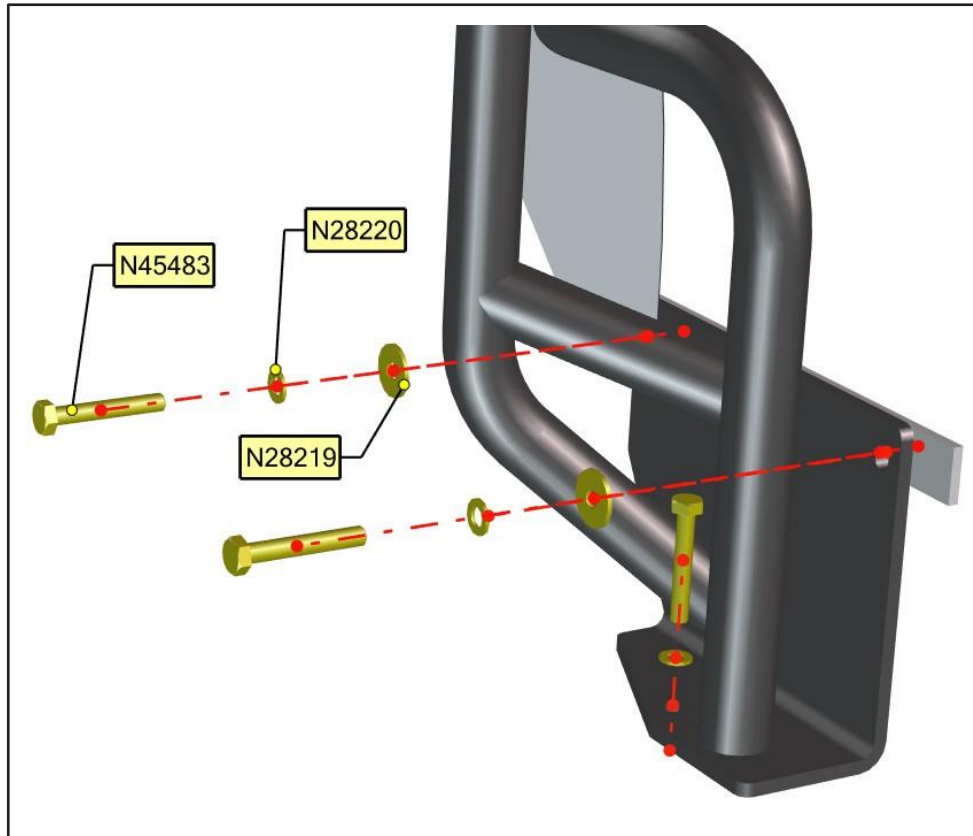

Figure 2 - Installation of bolt, lockwasher, washer on the vertical and horizontal surface
- 1.8. Install the bolt N45483, lockwasher N28220 and washer N28219 on the vertical surface and bolt N45483, lockwasher N28220 on horizontal surface (see figure 2).